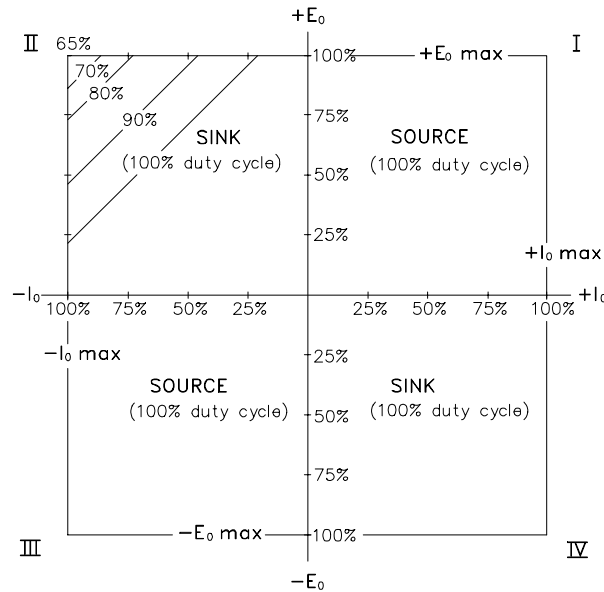

FIGURE 1-2. BOP OUTPUT CHARACTERISTIC
- A) OUTPUT RANGE: The BOP can be locally (front panel) adjusted, or remotely programmed, from (-) 100% to (+)100% of its specified d-c voltage and current range. The Class A bipolar output stage permits operation as either a SOURCE OR A SINK. (See FIG. 1-2.)